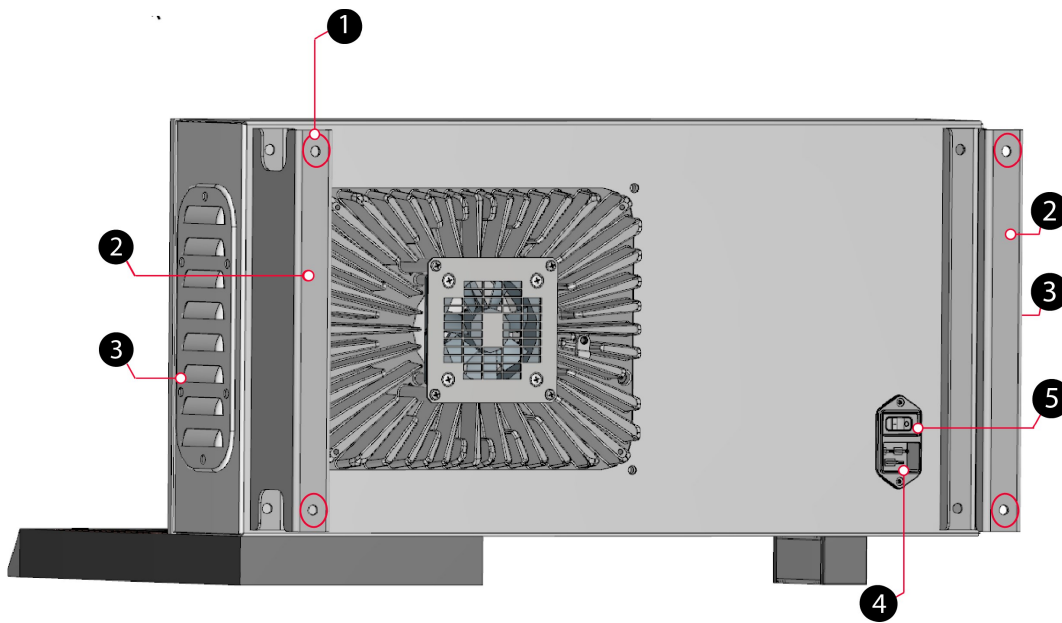

Figure 4.1. Rear view of MiR Charge 48V.
*Figure 4.1* shows the parts of MiR Charge 48V relevant for the installation and powering up.